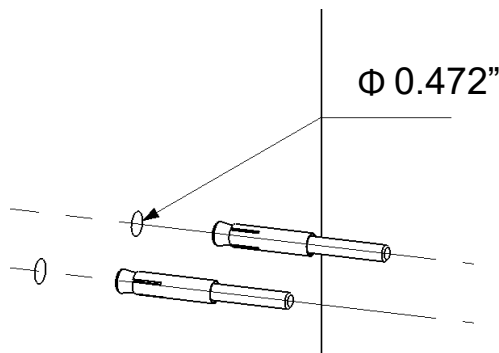

Figure 5.
2. As shown in figure 5 ,drill a $\Phi 12\text{mm}$ ($\Phi 0.472''$) , 55mm (2.165")depth hole one the wall .